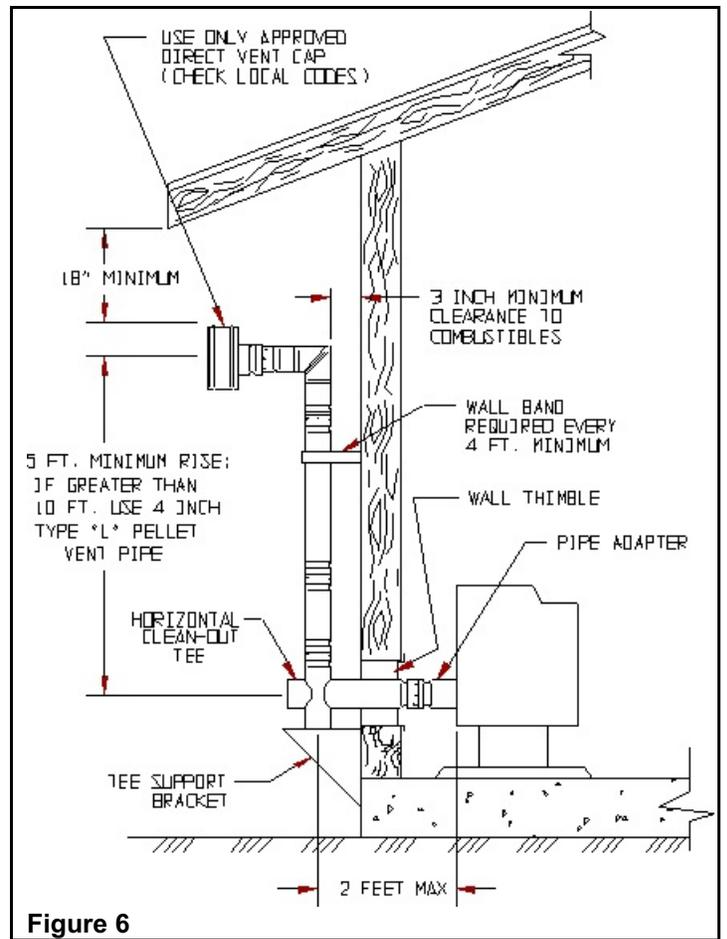

Figure 6
- 2.** In order to hook-up the battery and engage the 12V backup system simply connect red cable to red terminal on the heater (**see Figure 6**) and to positive connector on battery [the terminal marked (+)] and connect the black cable to the black terminal on the heater and to the negative connector on the battery (the terminal marked (-)). If you hook up the cables backwards the red LED light above the terminal receptacles will come on. If hooked up properly this LED will glow green.